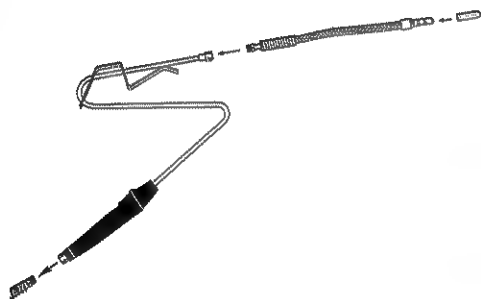

FIGURE 18:
4. Install the leak check cap on the end of the sample probe, making sure that it seals. See FIGURE 18.